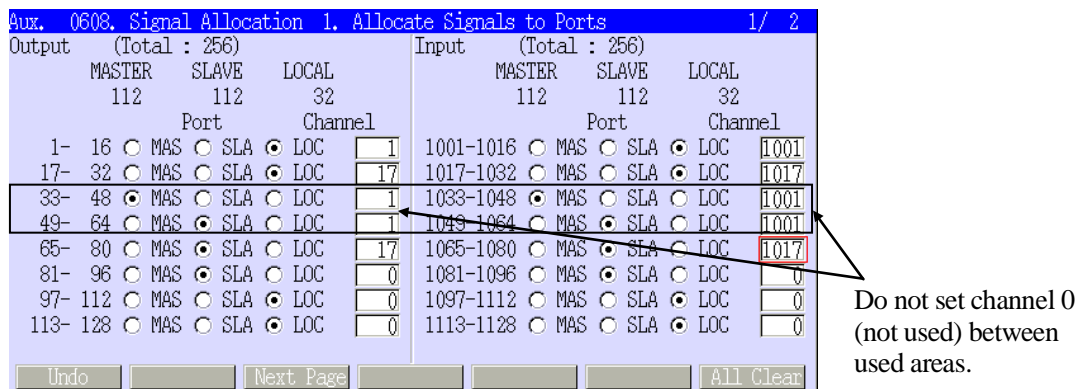

Fig.5.2 Changes of the setting.
a. Allocate 16 signals for master (MAS) by [Aux. 0608-1] as shown in Fig. 5.2 below.